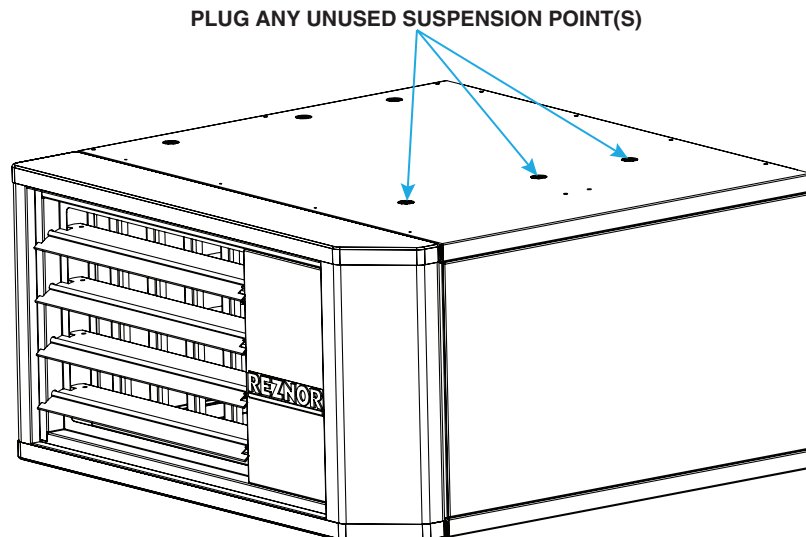

Figure 5. Plugging Unused Suspension Points (Models UBZ and UDZ Only)
- In the literature bag shipped with the heater, there are three capscrews (PN 203311) and sealing washers (PN 61658). On UBZ and UDZ models, these capscrews and washers must be used to seal any unused holes in the top of the heater (control side) after attaching the hanging hardware (see Figure 5).